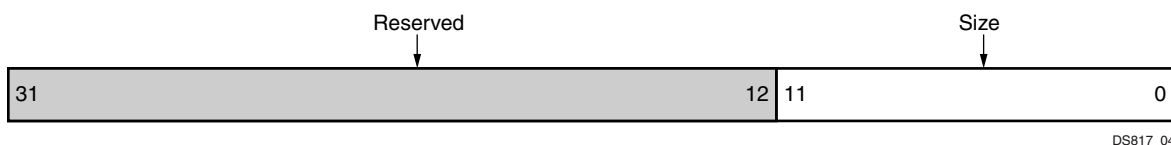

Figure 2-3: Size Register (SZ)
The Size (SZ) register shown in Figure 2-3 is a 12-bit write register that determines the number of words to be transferred from the ICAPE2 to the read FIFO. The bit definitions for the register are shown in Table 2-7.